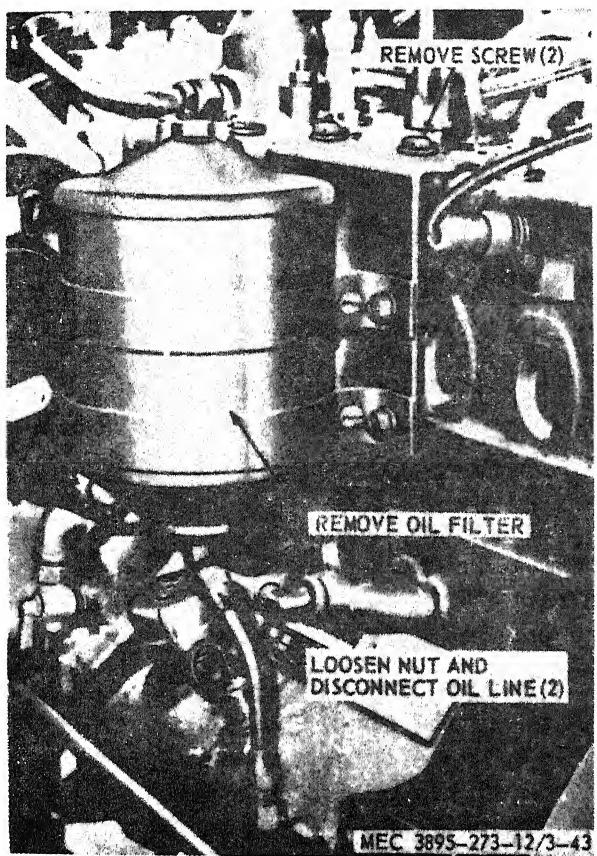

Figure 3-40. Oil filter, removal and installation.
a. *Removal.* Remove the oil filter, lines, and fittings as instructed on figure 3-40.
- (3) Install the straps (8) on the body (7) and secure with the screws (6), washers (29), and nuts (30).
- (4) Position the bracket (33) on the body (7) and secure with the screws (32), washers (28 and 31), and nuts (27).
e. Installation. Install the oil filter, lines, and fittings in reverse of instructions on figure 3-40.